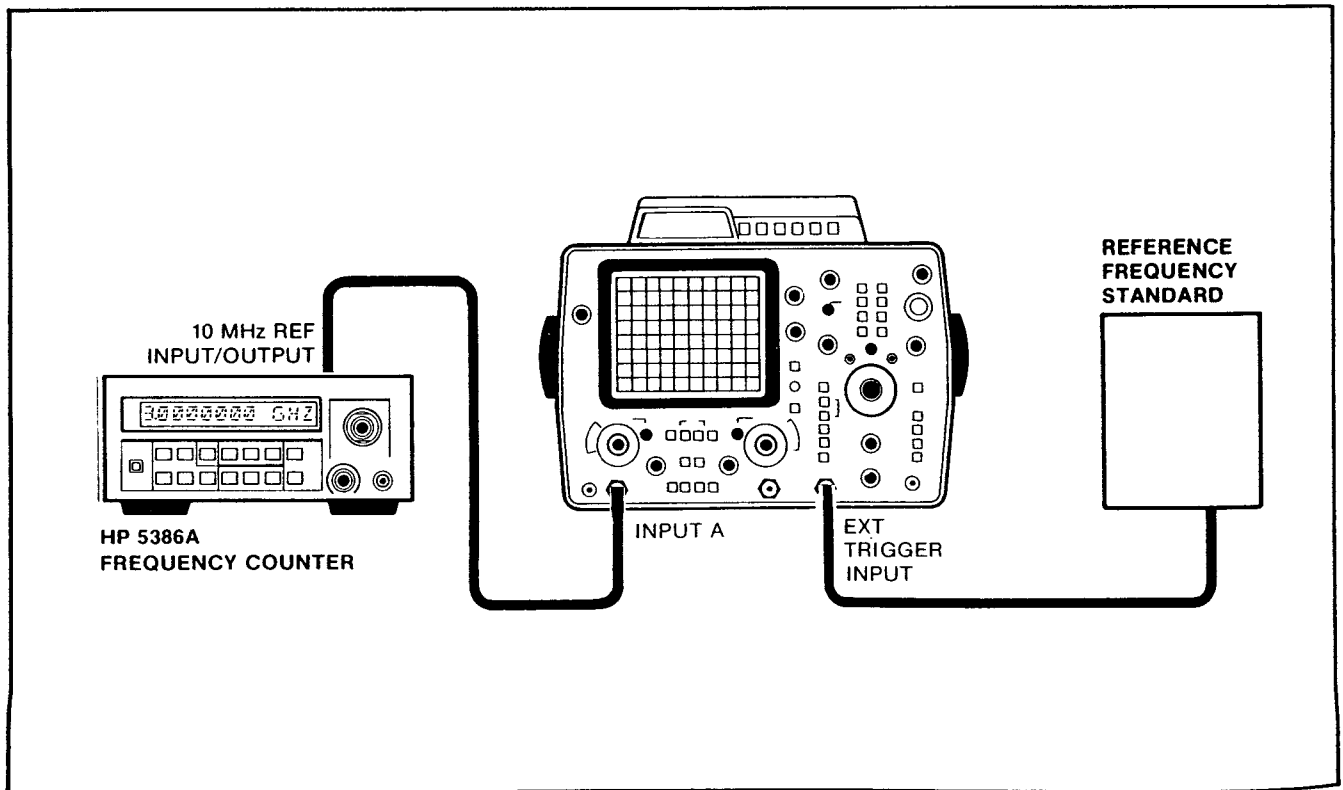

Figure 5-4. TCXO and Oven Oscillator Test Setup
- a. Connect a house standard (reference frequency) to the EXT TRIGGER input of an HP 1740A oscilloscope as shown in Figure 5-4. Set the HP 1740A oscilloscope to EXT (trigger).
b. Connect a house standard (reference frequency) to Channel A of the HP 5386A as shown in Figure 5-4.
c. Connect a house standard (reference frequency) to the EXT TRIGGER input of an HP 1740A oscilloscope as shown in Figure 5-4. Set the 1740A Oscilloscope to External Trigger.
d. Connect the HP 5386A rear panel 10 MHz REFERENCE IN OUT to the Channel A input of the HP 1740A oscilloscope as shown in Figure 5-4.